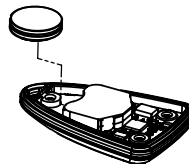

Figure 17. Insert the batteries in the transmitter
4. Insert the new batteries (see fig. 17 and 18).